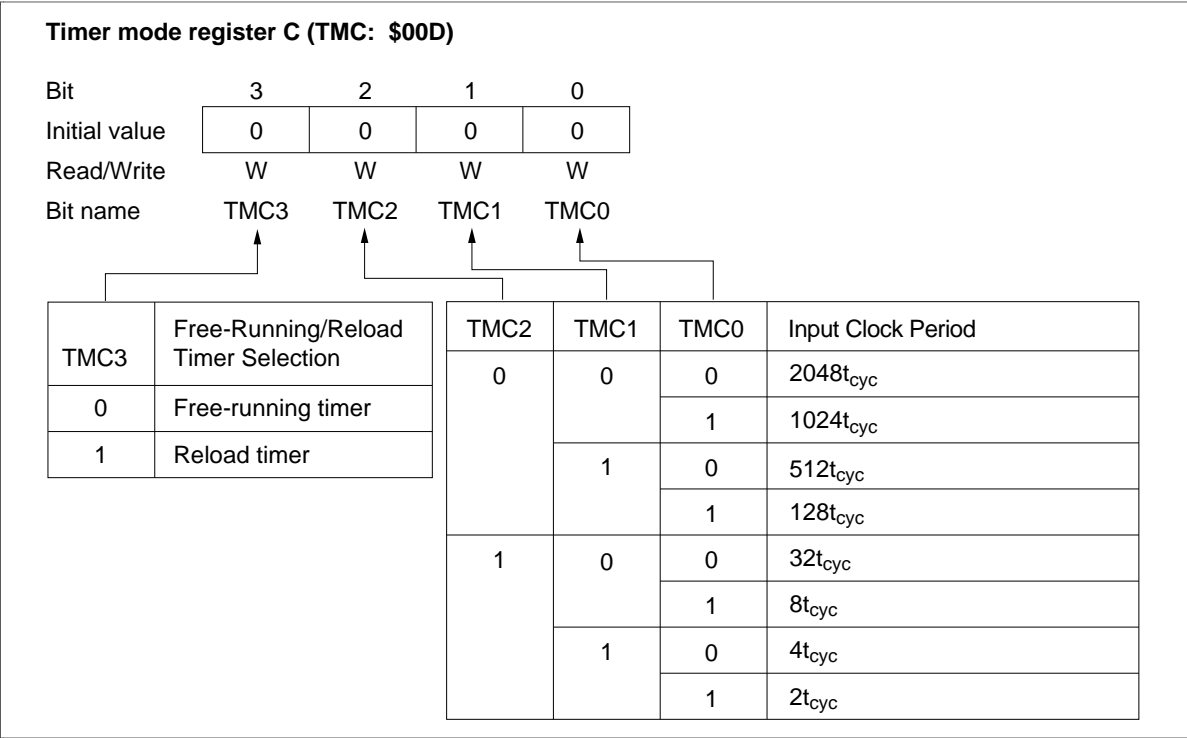

Figure 36 Timer Mode Register C (TMC)
- Timer mode register C (TMC: \$00D): Four-bit write-only register that selects the free-running/reload timer, input clock, and prescaler division ratio, as shown in figure 36. It is reset to \$0 by an MCU reset. The data written to timer mode register C is valid after two instructions cycles. The initial setting of timer C, which is set by writing to timer write register C (TWCL: \$00E, TWCU: \$00F), should be programmed to execute only after a mode change has been effective.